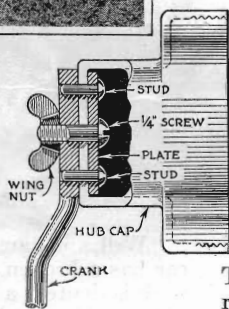

Fig. 1. By this arrangement the engine is used to pump up the air mattress.
F. R. GORTON, of Ypsilanti, Mich., wins the \$10 prize this month for his suggestion of an air mattress inflating method (Fig. 1). Each month *POPULAR SCIENCE MONTHLY* awards \$10, in addition to regular space rates, to the reader sending in the best idea for motorists. Other published contributions will be paid for at the usual rates.